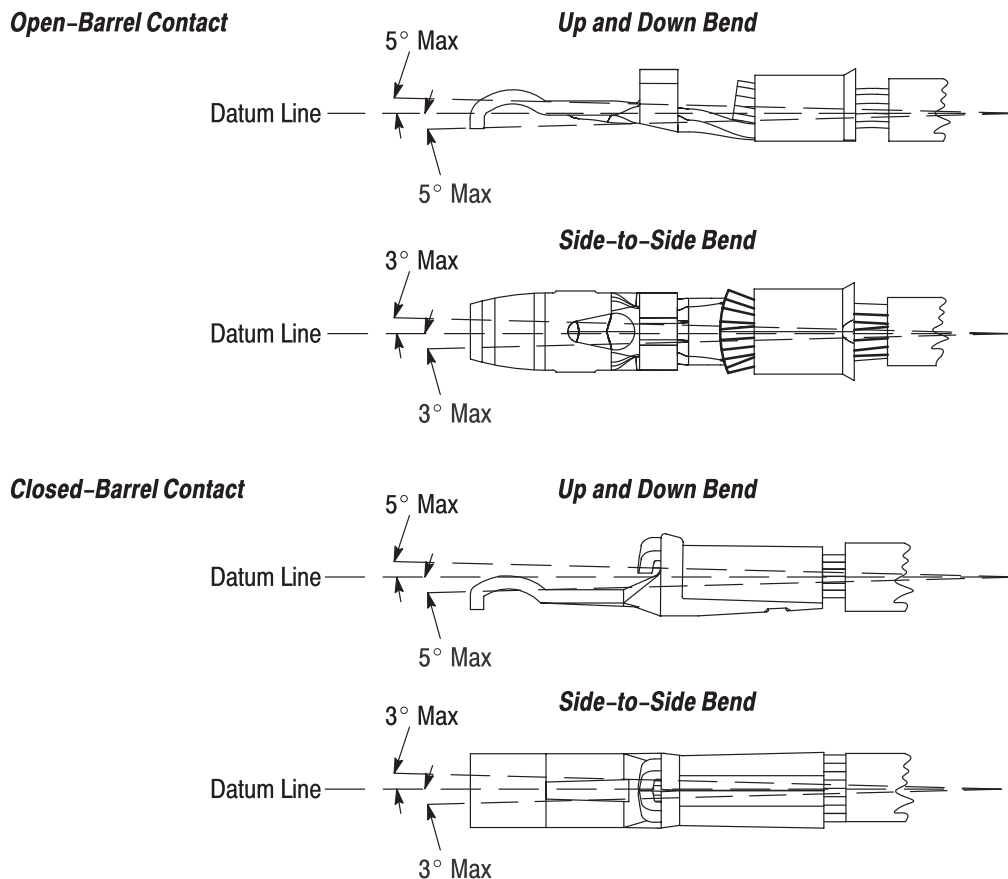

Figure 7
1. Up and down — the contact must not be bent beyond the limits shown in Figure 7.